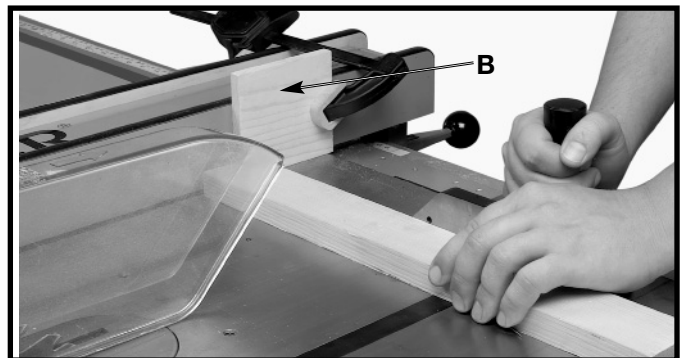

Fig. 52
⚠ CAUTION When using the block (B) Fig. 52, as a cut-off gage, it is very important that the rear end of the block be positioned so the work piece is clear of the block before it enters the blade.
When cross-cutting a number of pieces to the same length, a **BLOCK OF WOOD (B)**, can be clamped to the fence and used as a cut-off gage as shown in Fig. 52. It is important that this block of wood always be positioned in front of the saw blade as shown. Once the cut-off length is determined, secure the fence and use the miter gage to feed the work into the cut. This block of wood allows the cut-off piece to move freely along the table surface without binding between the fence and the saw blade, thereby lessening the possibility of kickback and injury to the operator.